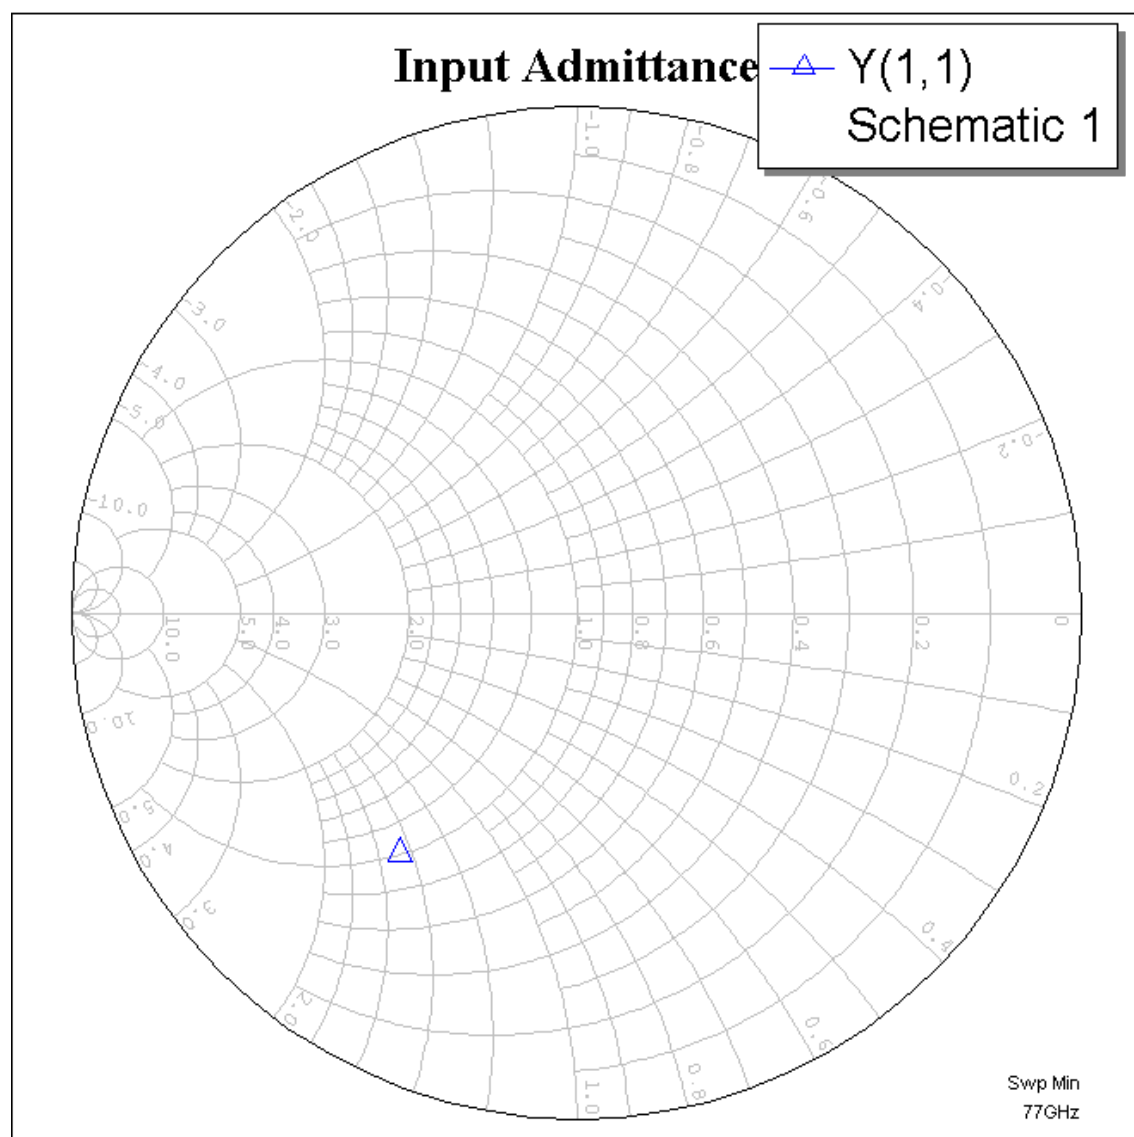

Figure 11.3: Chart 9 : O/C Stub Chart
- Move the tuner such that the electrical length of the O/C stub becomes 32° . The marker should appear on the unity conductance circle in the lower half of the chart, see figure 11.3.